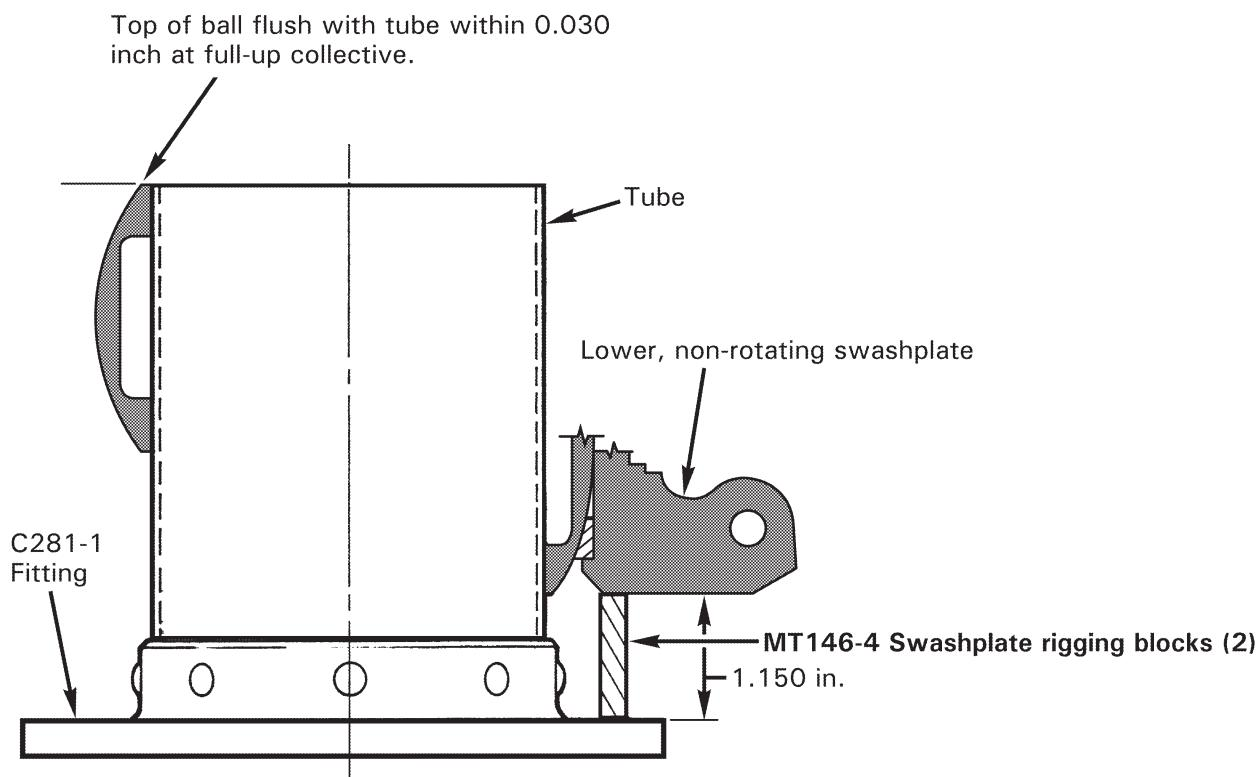

FIGURE 18-8 SWASHPLATE AND COLLECTIVE CONTROL RIGGING
4. Refer to Figure 18-8. Position MT146-4 swashplate rigging blocks between lower, non-rotating swashplate and C281-1 fitting. Refer to § 5-33, and adjust push-pull tube rod ends until aligned with swashplate attachment holes.
1. Refer to Figure 18-8. Position collective stick full up and apply friction. Place MT759-1 rigging blocks around cyclic stick in cyclic box assembly. Verify top of ball is flush with tube within 0.030 inch. Adjust all swashplate push-pull tubes exactly the same amount as required (one full turn = 0.48°).
After making adjustments, position collective stick full up and apply friction. Verify top of swashplate ball is flush with tube within 0.030 inch per Figure 18-8. Adjust all swashplate push-pull tubes exactly the same amount as required (one full turn = 0.48°). Lengthening all push-pull tubes increases blade angles.